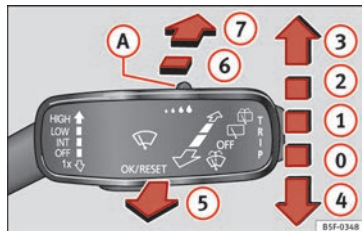

Fig. 140 Window wiper lever.
- Give the windscreen a **brief** wipe by moving the lever down to position **4** » **Fig. 140**.
- Push the lever up to position **1** » **Fig. 140**.
- Push the lever up to position **2** » **Fig. 140**.
- Push the lever up to position **3** » **Fig. 140**.
- Pull the lever towards the steering wheel, position **5** » **Fig. 140**, and the windscreen washer and wipers are switched on.
- Press the lever forward to position **6** » **Fig. 140** and the rear window wiper will run every 6 seconds.
- Press the lever fully forward to position **7** » **Fig. 140** and the rear window wiper and washer switch on at the same time.
- Move the lever to position **0** » **Fig. 140**.
The headlight washers operate briefly if the dipped headlights or headlights are on and the lever is moved to position ⑤ » Fig. 140. The headlight washer system also operates every 10 windscreen wash cycles.